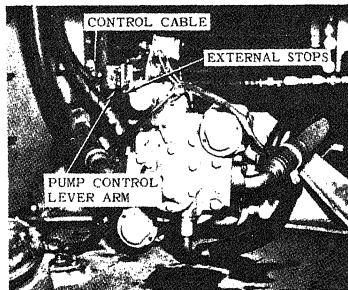
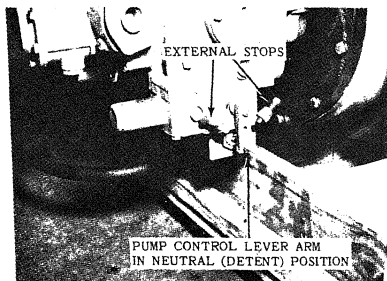

FIGURE 27
FIGURE 28
2. Place the "forward-reverse travel lever", item 14, page 9, and the "vibration control lever", item 13, page 9, in neutral (detent position).
9. If the traction drive pump has been replaced, with step 9A - "Setting external pump lever arm" figure 27. If the vibration control pump has been replaced, refer to page 17, "Vibration Frequency Measurement." Then continue with step 10.
A. Set External Pump Control Lever Arm. Refer to figures 28 and 29. Figure 27. Remove the pump control cable from the pump control lever arm. Remove lock nuts and back off on adjusting screws. Move the pump control lever arm in one direction to its maximum stroke. This will "bottom" the lever internally inside the pump. Now adjust the screw